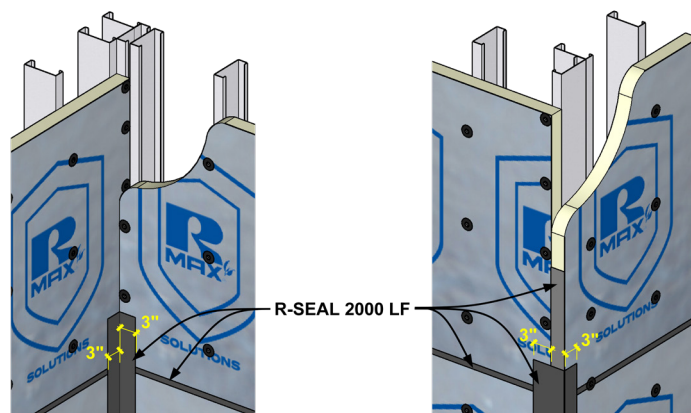

Figure 8
E. Prime exposed foam core at board edges with a light skin coat of R-SEAL 2000 LF (**Reference Figures 8 and 9**) or apply a layer of R-SEAL 3000 or R-SEAL 6000 to bridge substrates on either side of the foam core. The ECOMAXci® FR Air Barrier foam core does not support adhesion and is not to be considered the last surface of any taping sequence. When taping is required to go into the plane of the foam core, it must go beyond the foam core and onto the aluminum facer on the other side.
M. Rough Openings, Corners, Transitions and Changes in Plane: Use R-SEAL 2000 LF for static conditions only. Apply a bead of R-SEAL 2000 LF using a zigzag pattern and tool to achieve a minimum 3" extension beyond the last surface of each plane to be flashed at a continuous 50mil minimum wet gauge thickness. **Reference Figures 8 and 9.** For washers that fall within the flashed area, fully cover and extend liquid to ensure a minimum of 1" flashing beyond the washer.